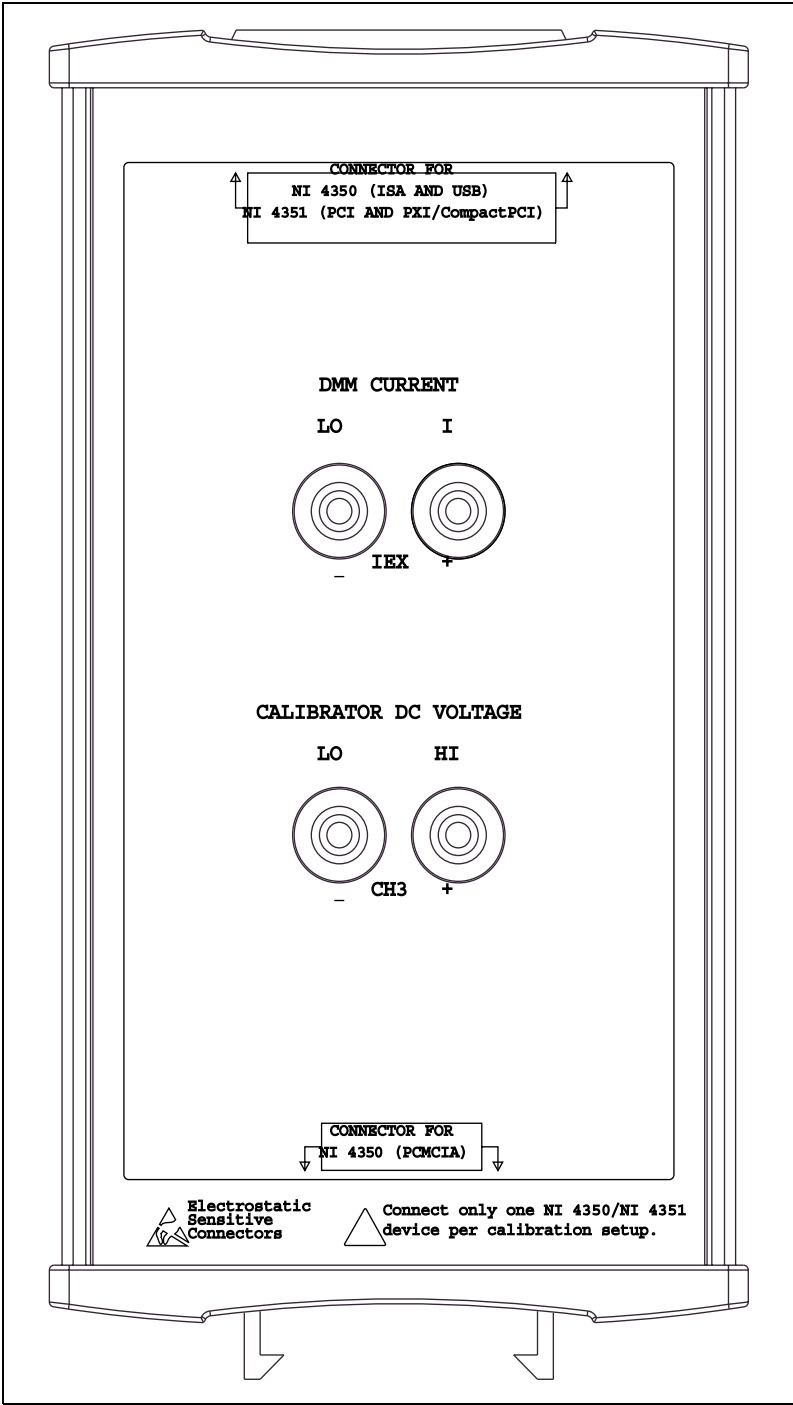

Figure 1. NI 4350/4351 Calibration Adapter
2. Connect the device to the NI 4350/4351 Calibration Adapter (see figure 1) with a SH68-68 shielded cable or a PSH32-30F cable.